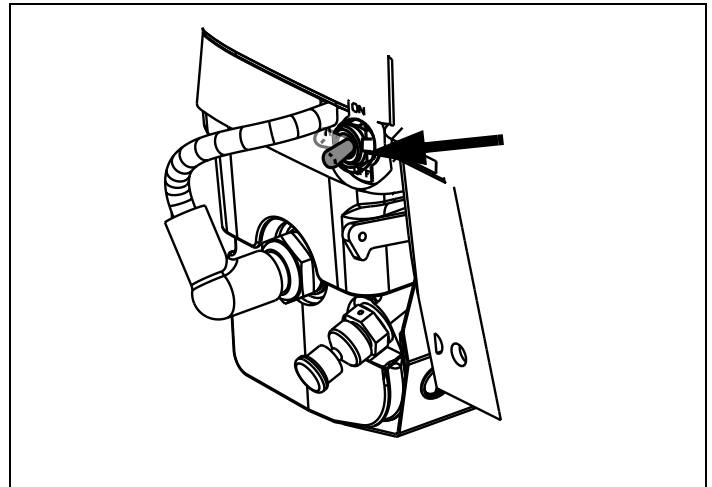

Figure 15. Switch in "OFF" Position
1. Move remote control on equipment, or any ignition stop switch on engine, to "STOP" or "OFF" (see equipment manufacturer's instructions). See Figure 15.
- Turn off all engine switches. See Figure 15.